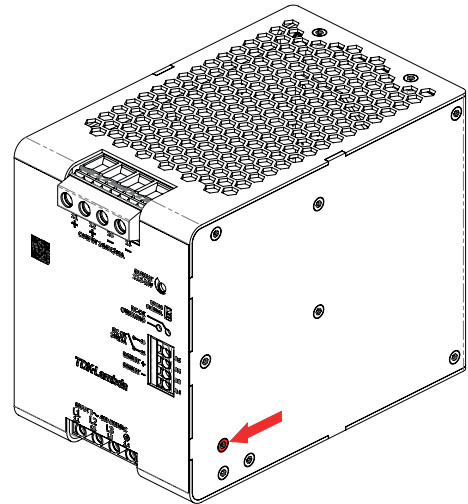

Fig. 26: Position of the connection screw for the GDT
- 1) Completely remove the connection screw (marked with an arrow) with a Torx X10. (see Fig. 26)